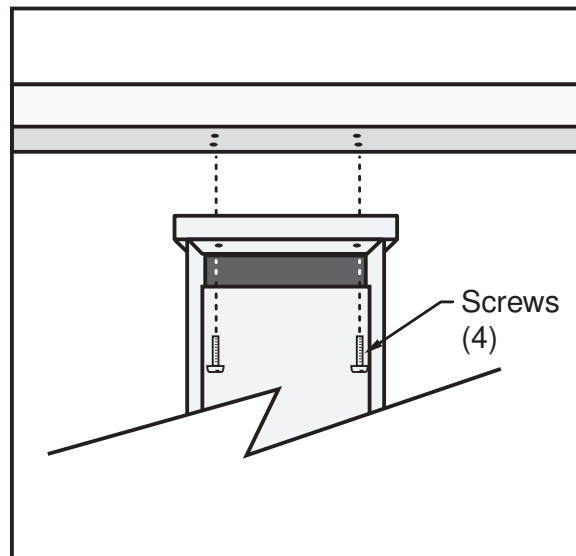

FIGURE 6-7. ET107 crossarm mounting
The crossarm needs to be installed after the enclosure is mounted on the pole. You may need to temporarily remove the communications option. Mount the crossarm as shown in FIGURE 6-7 (p. 21) without the wind sensor attached.
4. Attach the arm to the enclosure by inserting and tightening four Phillips head screws (FIGURE 6-7 (p. 21)).